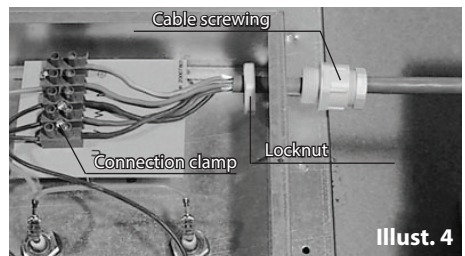

**Fig. 2**
1. Center wall mounting over the air intake vent as in Fig. 2 and bolt onto cabin wall with the particle board screws provided. In doing so, please make sure that the side (lateral) clearance between sauna heating unit and cabin wall is at least **4 cm**.